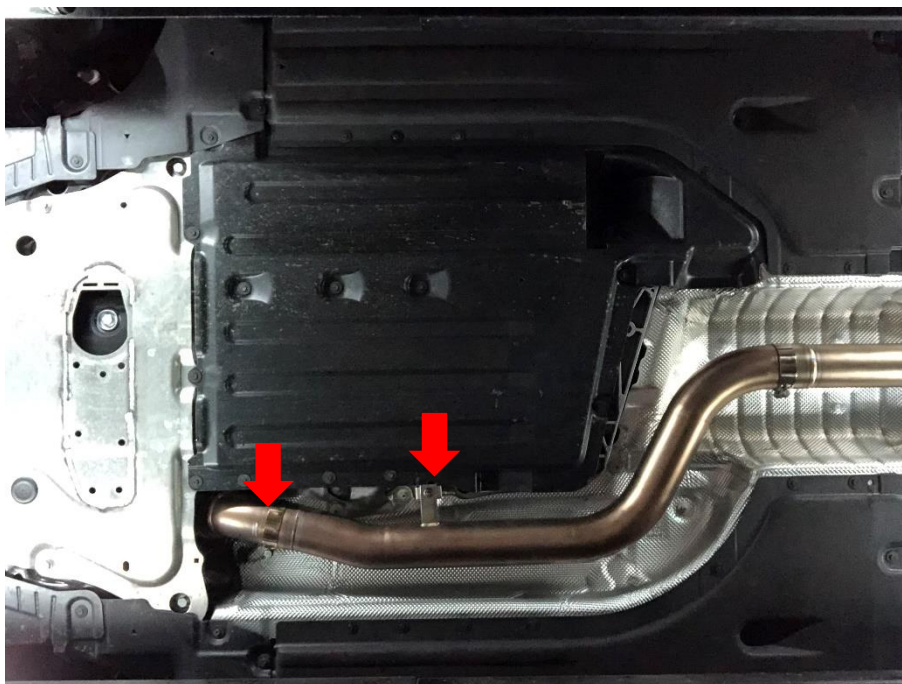

Fig. 6
2. Install the iPE front pipe screw the bushes and clamps. (Fig6)